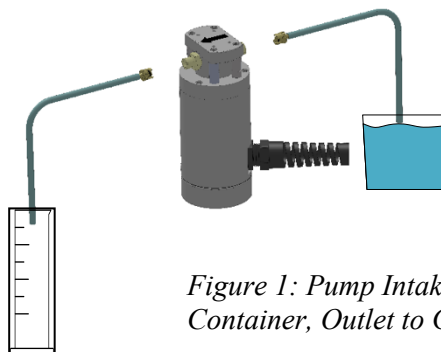

Figure 1: Pump Intake to Clean Water Container, Outlet to Graduated Cylinder
1. Using tubing and fittings from the RAS toolkit, connect the intake to a clean water container and the outlet to a graduated cylinder (Figure 1).